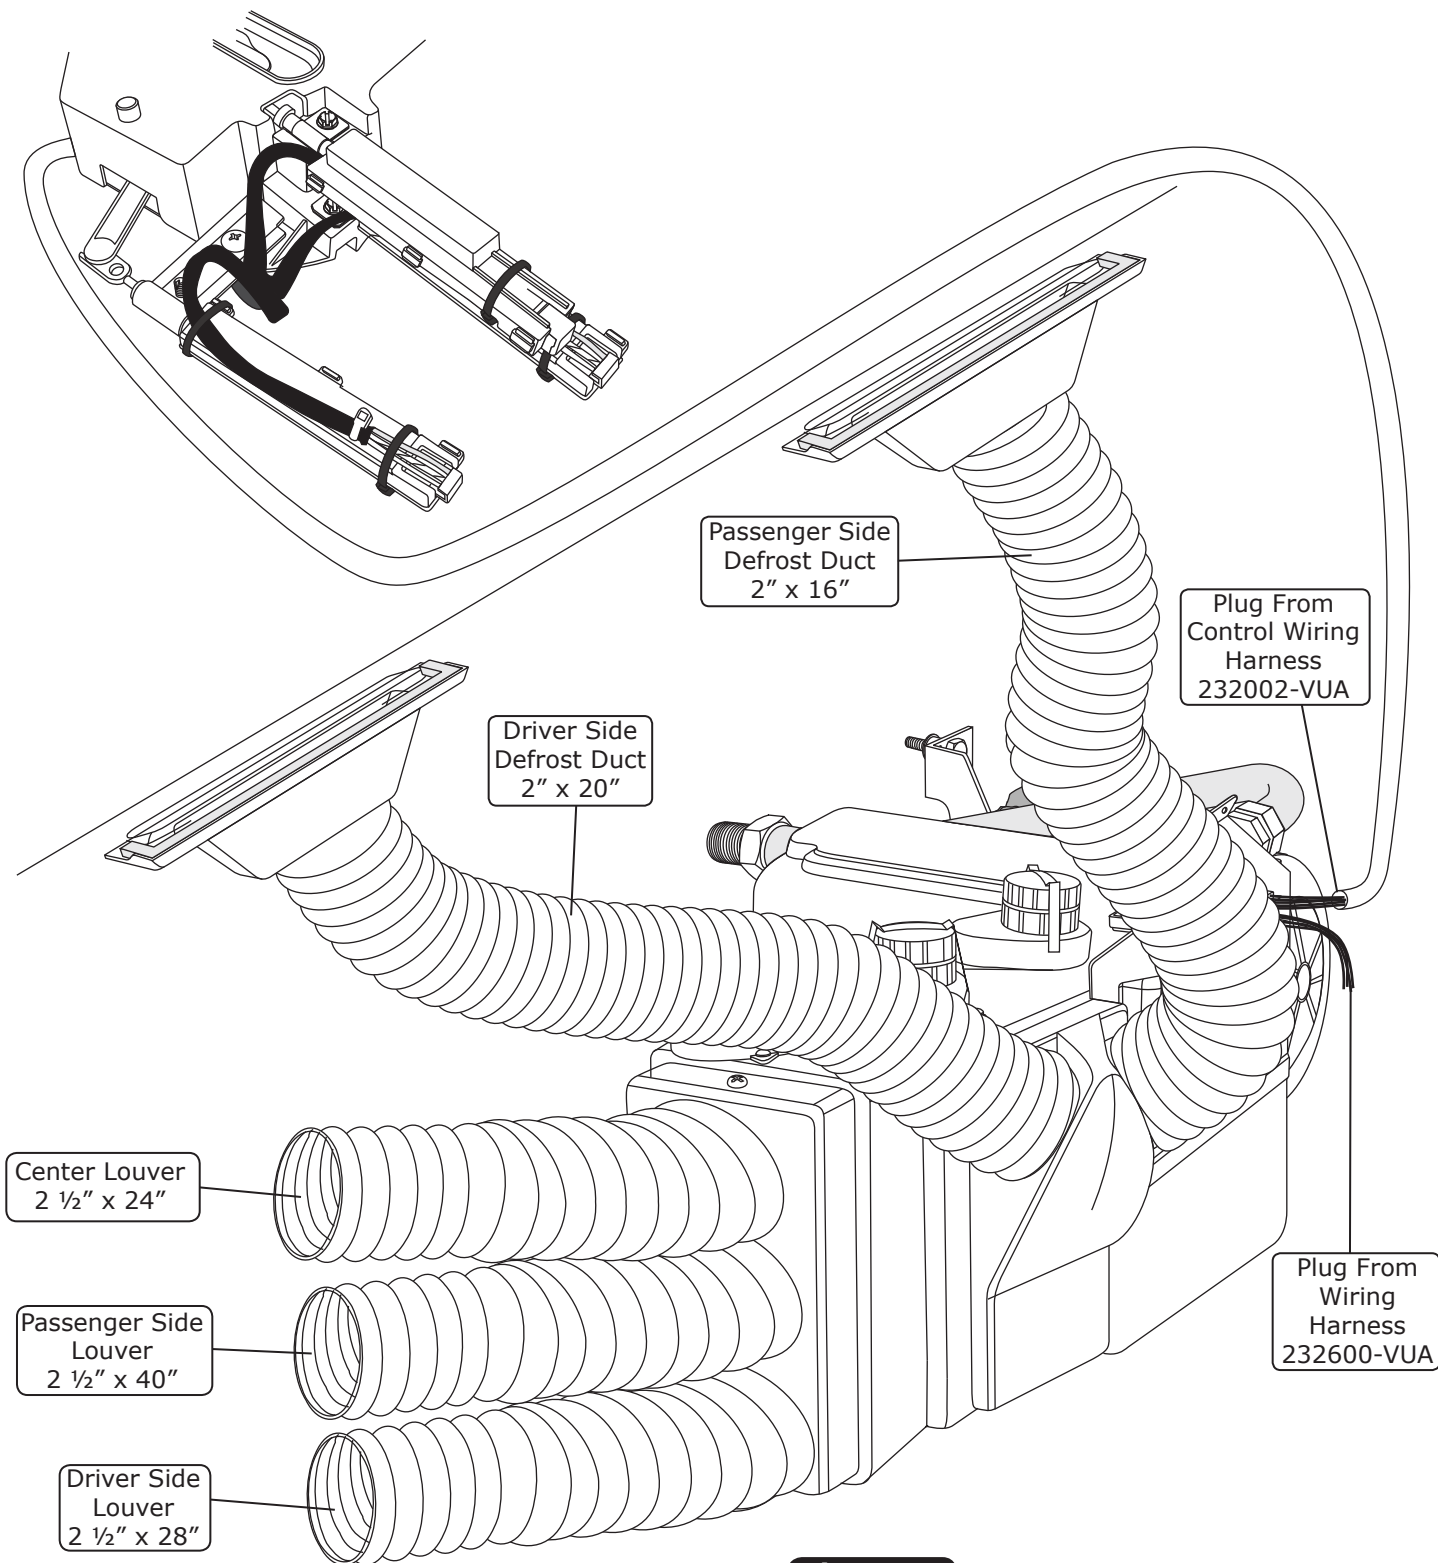

**Figure 27**
1. Locate the (3) Tinnerman nuts previously removed from the original glove box shell, and slide them onto the door hinge holes on the dash (See Figure 27, below).
2. Insert the bottom half of the new glove box into the glove box opening, and secure it to the dash with (1) OEM screw on each side of the glove box (See Figure 27, below).
3. Attach the top half of the glove box to the bottom half using (4) #6 x 3/8" pan head screws (See Figure 27, below).
4. Reinstall the glove box door using (3) OEM screws through the Tinnerman nuts (See Figure 27, below).